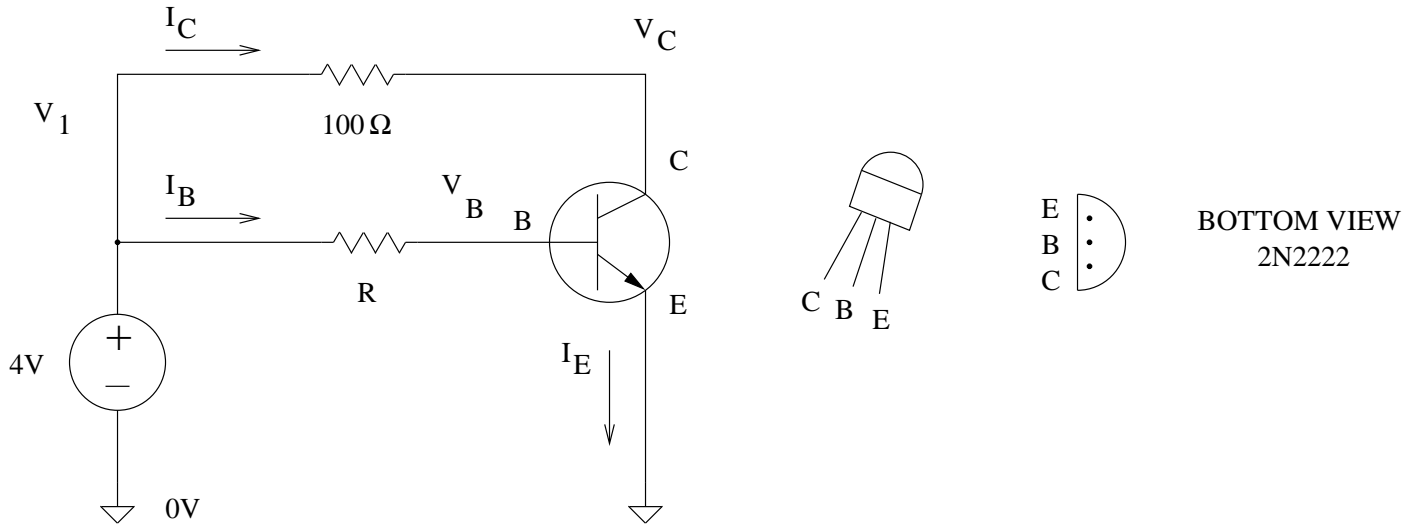

Figure 15: NPN transistor circuit
3. Consider the circuit of Figure 15. Fill out the following table for each of the listed values of R. Assume $\beta = 50$, $\alpha = 1$, and $V_{BE} = 0.7$ as appropriate.
1. Construct the circuit in Figure 15 using the 2N2222 npn transistor. Resistance R is variable. Fill out a new table as in the prelab for each R. Be sure to record the nominal resistances and not the ideal ones listed.